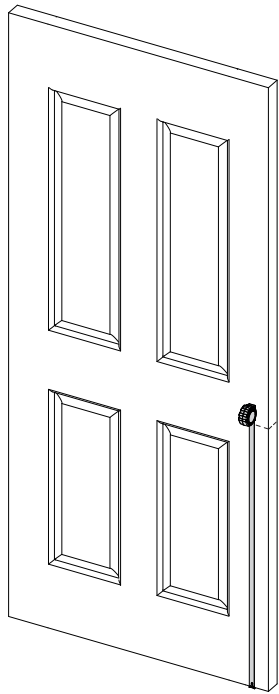

Figure 1.
- 1.1. Mark the edge of our door at the desired height of our handle. (Figure 1)